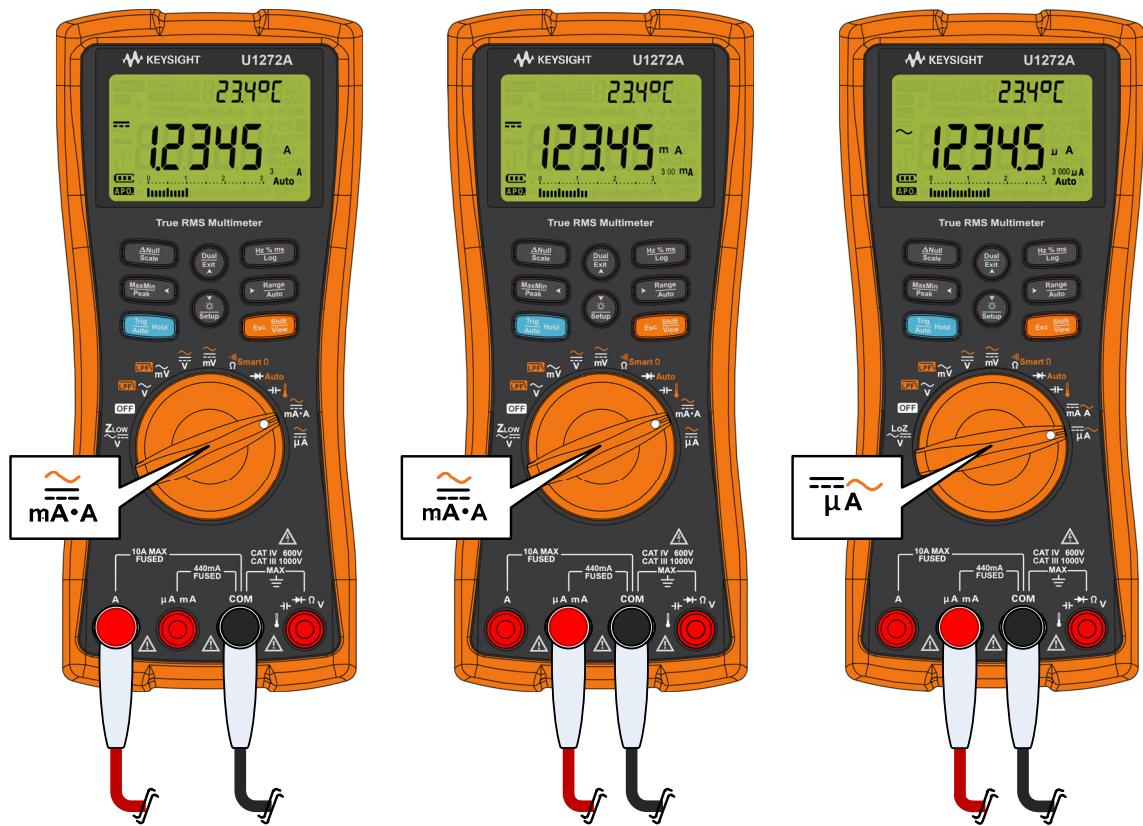

Figure 2-34 Current measurement setup
- To avoid blowing the multimeter's 440 mA fuse, use the **μA mA** terminal only if you are sure the current is less than 400 mA. See Figure 2-34 for test lead connections and function selection. Refer to the Input warning section for information on the alerts the multimeter uses when leads are not used correctly for current measurements.